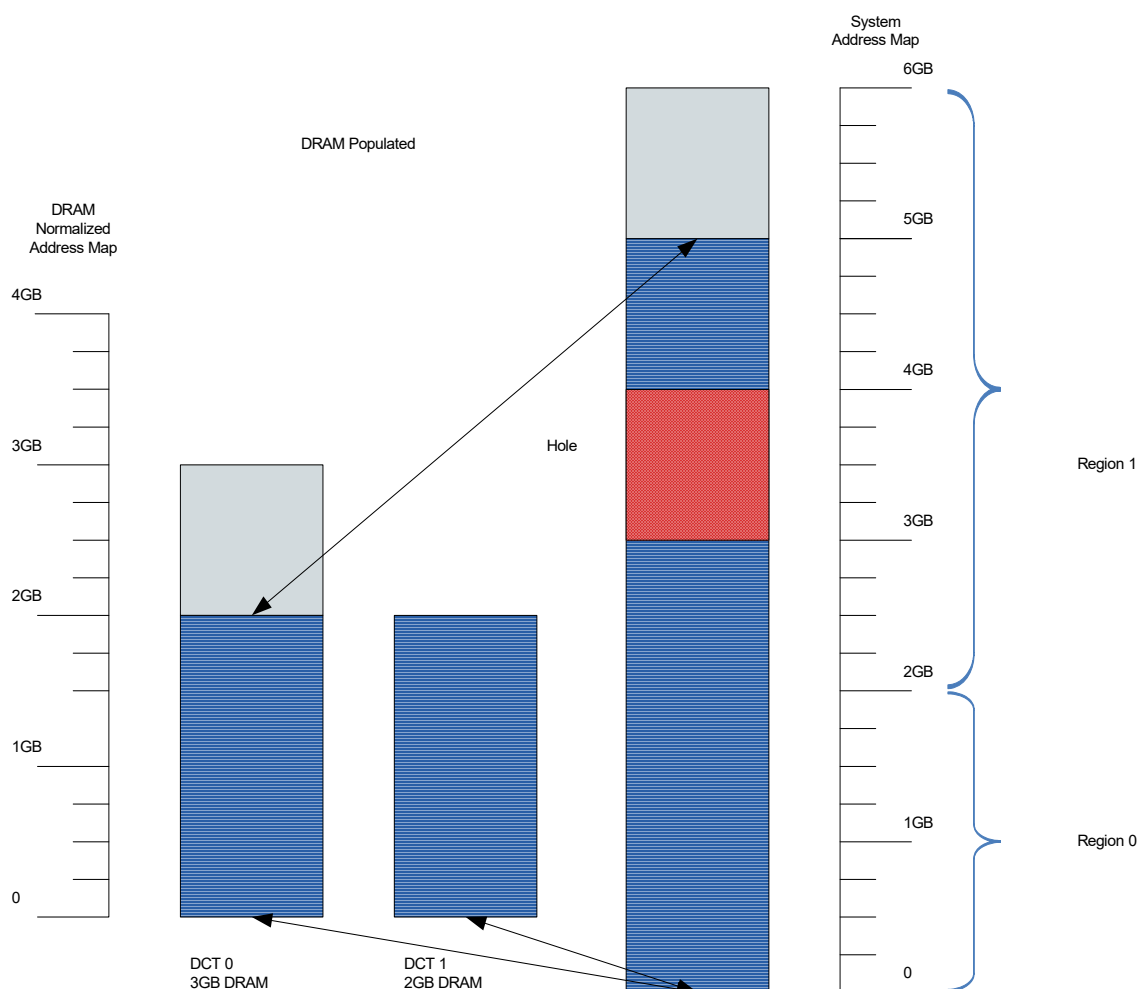

Figure 6: 2 DCT Channel Interleaved with Memory Hole
- **Figure 6:** Region 0 maps addresses 00_0000_0000h thru 01_3FFF_FFFFh which is channel interleaved and contains a 1GB memory hole; offset Region 1 to map the remaining memory.
- $D18F1x240[DctHighAddrOffset] = ((01_3FFF_FFFFh + 1) - 0 - 4000_0000h) / (2) = 2GB$. //DCT 0 offset from Region 0.